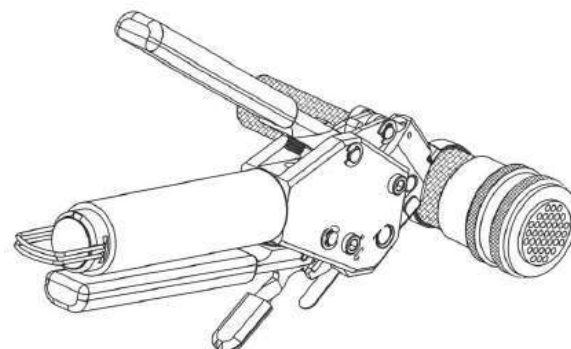

Figure 30
- d. Release the tensioner handle and allow it to open fully. Confirm that the band is positioned flat over the braid on the connector accessory, and with one final stroke, close the tensioner handle (Figure 30) until it locks against the tool body.